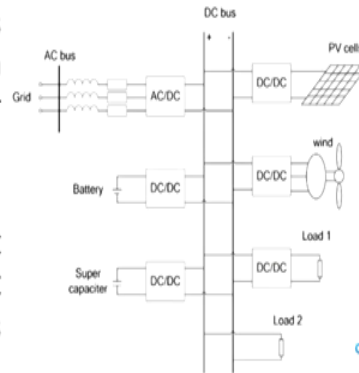

Fig.1 Typical Structure of DC Microgrid
- Typical DC microgrid structure is shown in Fig.1, which contains a large number of power electronic converters.
So, let us take a typical microgrid which has been shown in the figure. A typical DC microgrid structures is shown in the figure 1 which contains large number of power electronics converter. You have a grid you have an active rectifier mostly we see at the higher voltage site. You have a bidirectional DC to DC converter it depends but battery mostly is around 48 volt and your bus voltage may be close to that or little different or may be some other voltage.